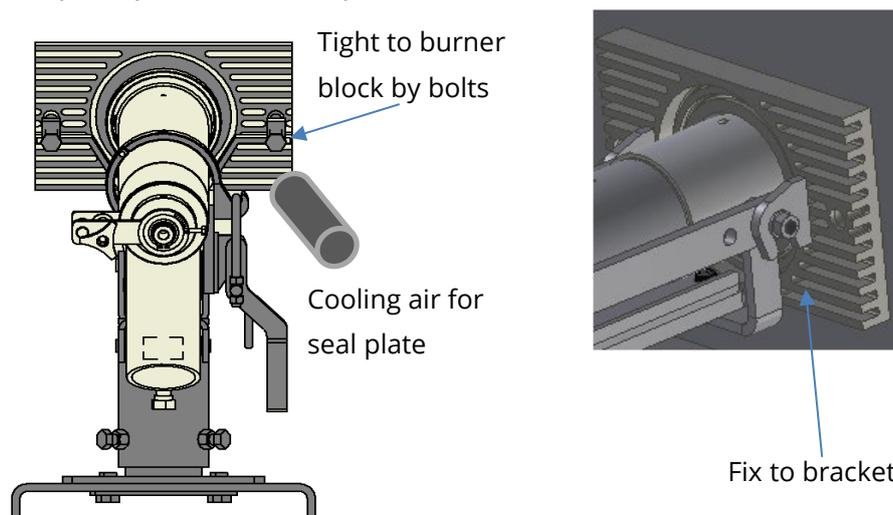

Figure 3: FlexFire® Burner standard configuration and seal plate installation
1. Attach the seal plate to burner block, or to the burner bracket, and tighten it with fixing bolts. Figure 3